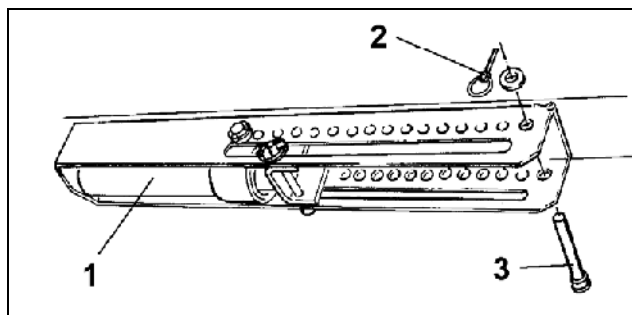

Fig. 88
- Relieve the hydraulic ram (Fig. 88/1) from pressure.
- Insert the pin (Fig. 88/3) into one of the holes of the quadrant plate and secure by using a clip pin (Fig. 88/2).